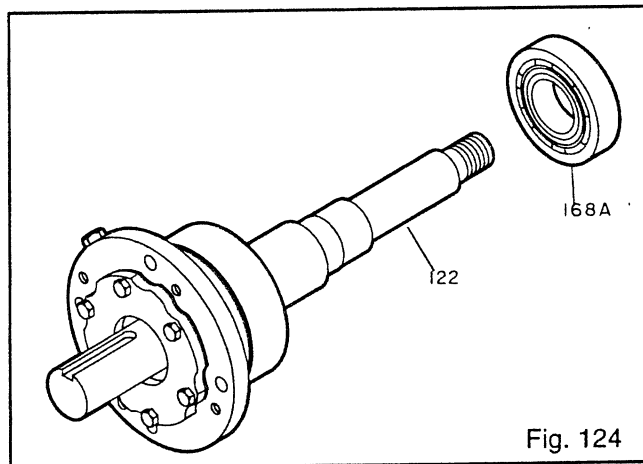

Fig. 124
8. Install inboard bearing (168A) on shaft (122) (Fig. 124).